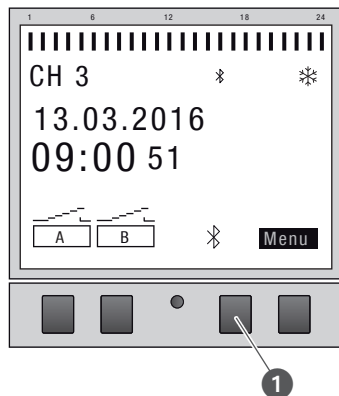

Fig. 22: Establishing a Bluetooth connection to the channel extension
6. Press the Bluetooth button (Fig. 22/①) on the channel extension.